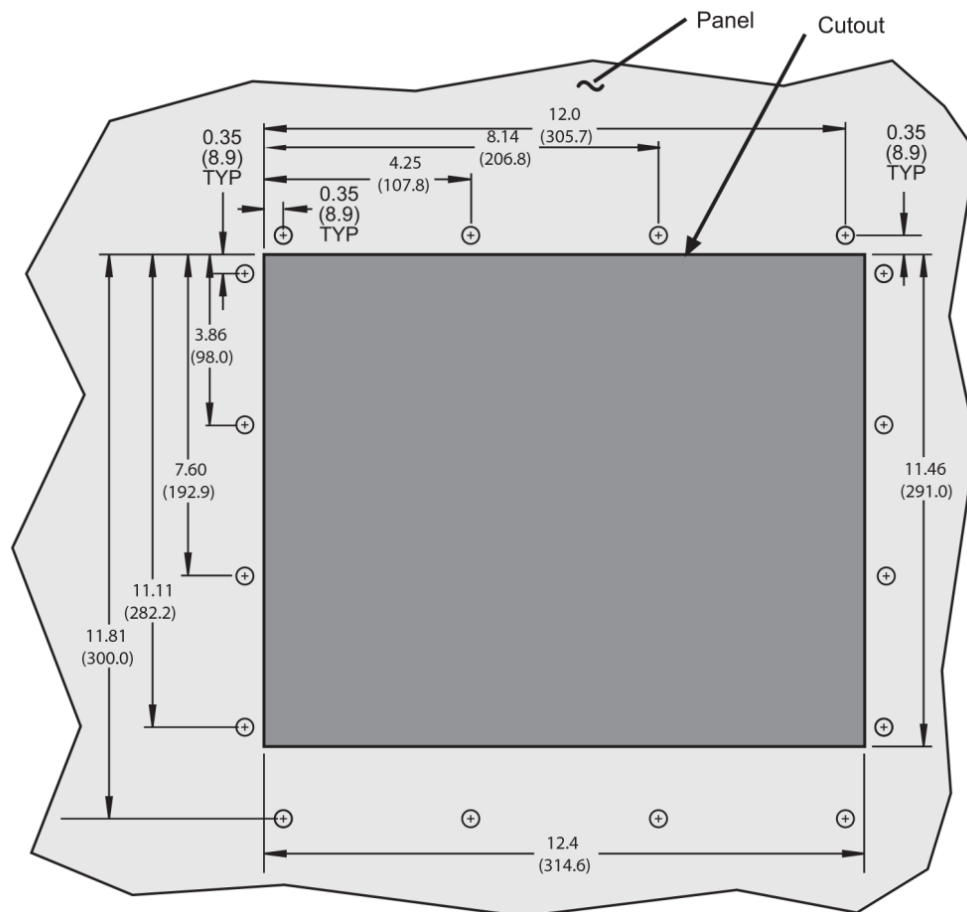
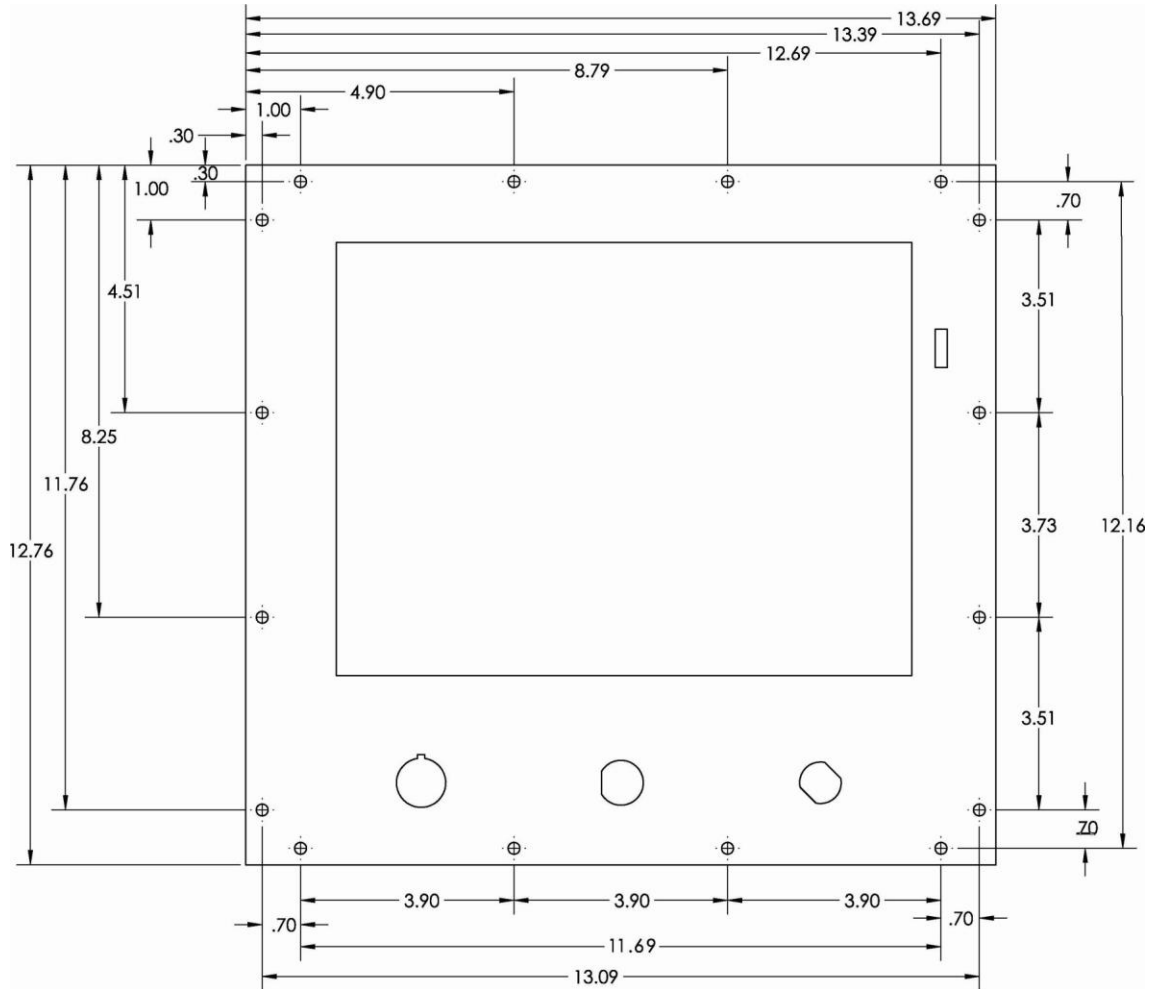

Figure 2-2. SmartPAC PRO Panel Mount Cutout Dimension
Figure 2-3. SmartPAC PRO Panel Mount Dimensions
2. Cut out a hole in your enclosure, and drill and tap twelve holes for #10-32 screws, referring to Figure 2-2, page 20, and Figure 2-3, page 21, for mounting and “cutout” dimensions.